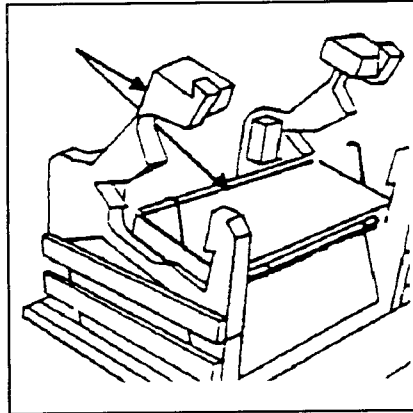

Figure 2-11. Remove Wire Form
- g. On the top of the sound shroud, pull the foam on either side of the wire form outward and carefully lift out the wire form (Figure 2-11).